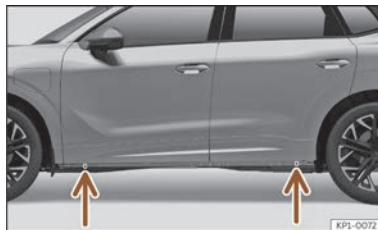

Fig. 242 Jack position points.
- Look on the strut for the mark of the jack support point (sunken area) closest to the wheel to be changed >>> **Fig. 242**.